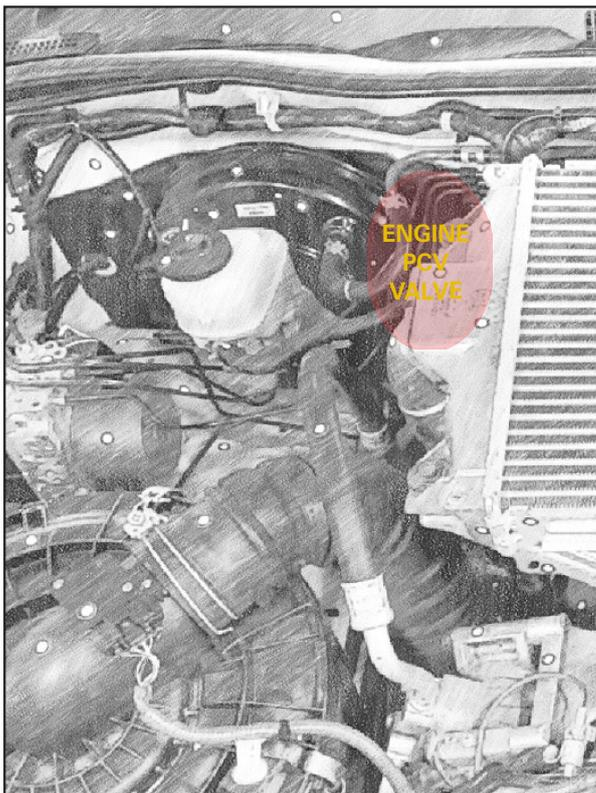

FIG. 8a ENGINE PCV VALVE
3. Locate the factory PCV valve on the driver side engine rocker cover (under the intercooler), as per Fig. 8 below. Undo the factory bolt to loosen the bracket on the factory metal PCV ventilation pipe. Remove the factory rubber ventilation hose from the PCV outlet and store for safe keeping, as shown in Fig 8a and Fig. 8b.